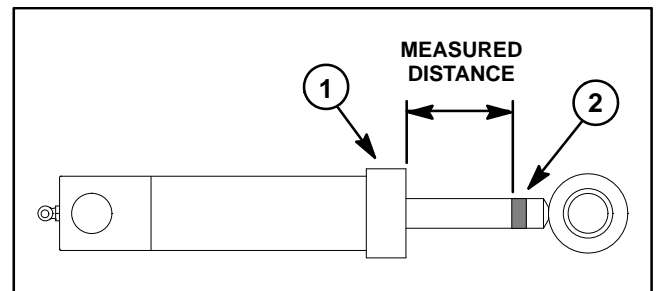

Figure 43
6. Place a piece of tape on the lift cylinder rod near the rod end (Fig. 43). Measure and record the distance from the lift cylinder collar to the tape location.
7. Leave the machine parked for two (2) hours and monitor the lift cylinder. The weight of the cutting deck may cause the lift cylinder to gradually retract due to internal leakage in the cylinder. Use the change in distance from the lift cylinder collar to the tape location to determine lift cylinder rod movement.
A. If the cutting deck is still suspended after two (2) hours and lift cylinder rod movement is less than **1.250" (31.7 mm)**, consider that the lift cylinder is in good condition. A lift cylinder in good, usable condition will show minimal rod movement.
B. Rod movement in excess of **1.250" (31.7 mm)** after two (2) hours indicates a lift cylinder with internal seal damage or excessive internal wear. Replace or repair the lift cylinder (see Lift Cylinder and Lift Cylinder Service in the Service and Repairs section of this chapter).